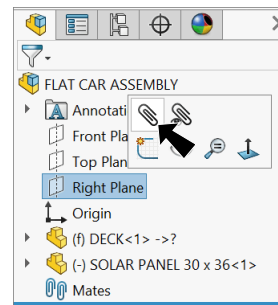

Fig. 5
Step 2. Click **Right Plane**  in the Feature Manager and **Mate**  on the context toolbar, **Fig. 5**.